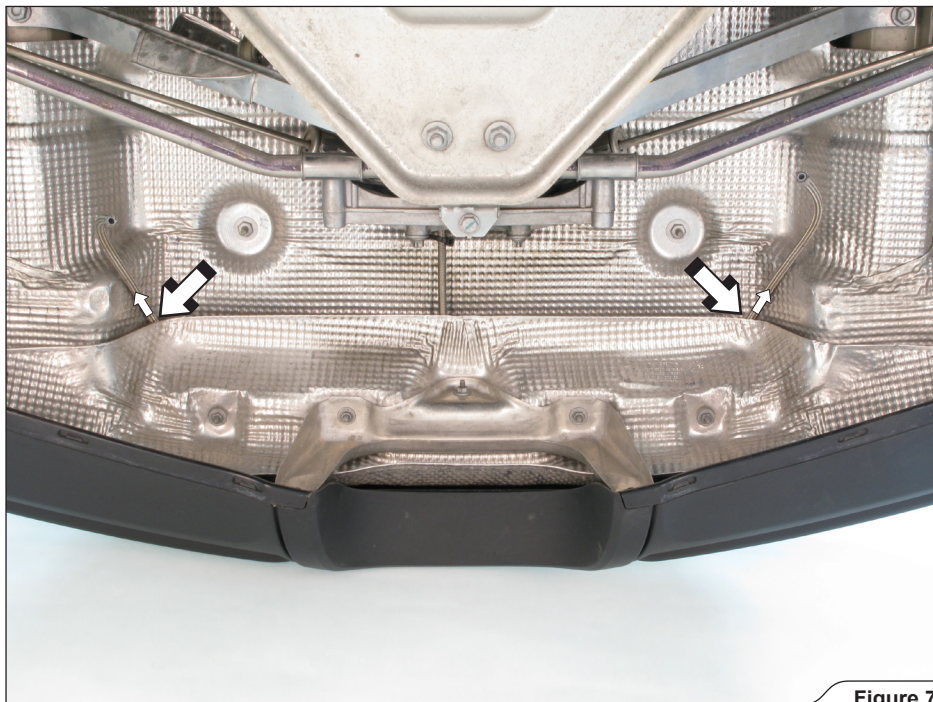

Figure 7
2. **For vehicles with stock sport exhaust system only:** carefully redirect the stock vacuum hoses, as shown (Figure 7).